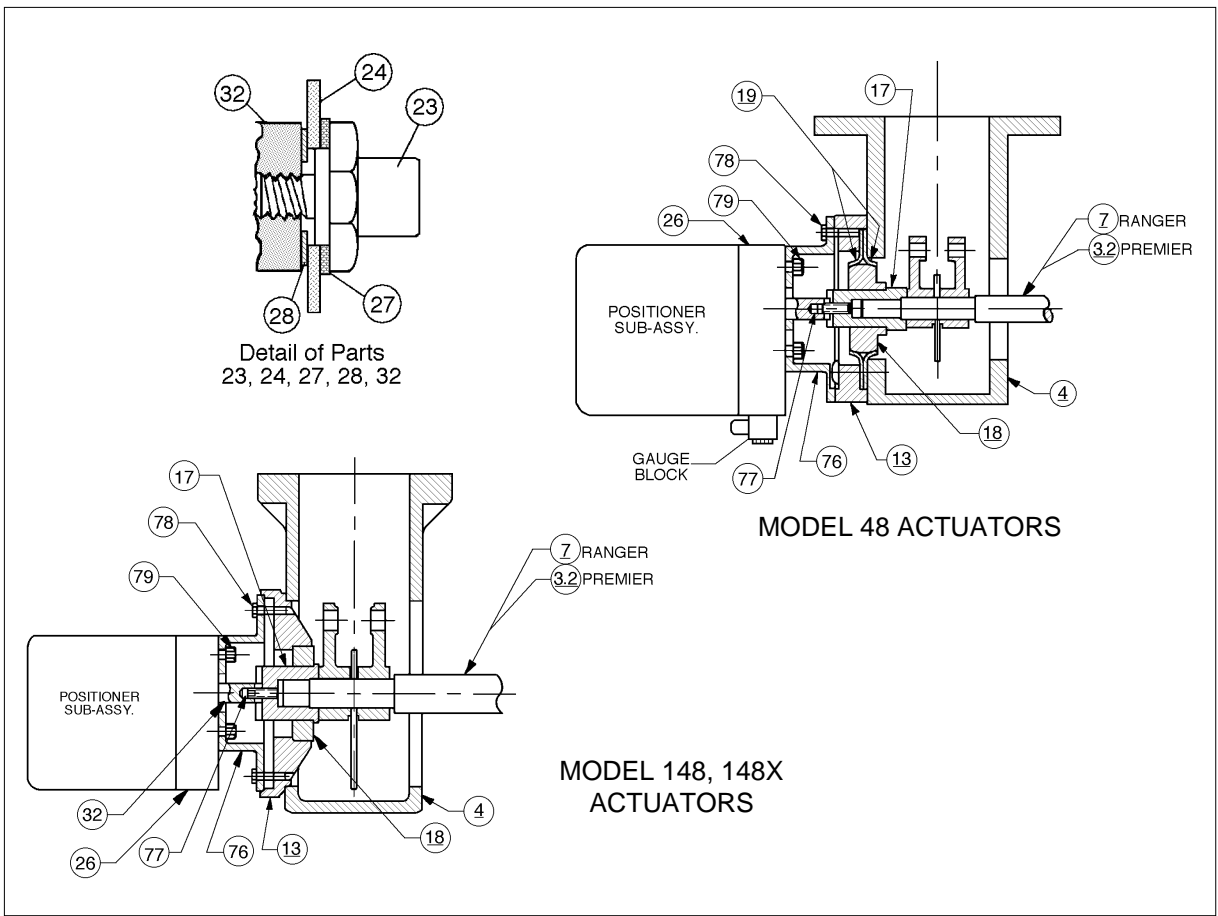

Figure 3
**#48 Actuator:** (See Figure 3)
- 4a. Turn actuator handwheel CW to remove stem windup torque. The linkage from the actuator stem (9) will become slack. May require 1-3 revolutions. This will ease removal of cap screws (31).
- 4b. Remove three cap screws (31), dial lens (14), travel indicator dial (15), cover plate (13), cap screw (32), travel indicator (16), lock washer (55) and pin (51). Remove bearing (18), both bearing flanges (19) and indicator spacer (17).
- 4c. Discard removed dial lens (14), travel indicator dial (15), cap screw (32), travel indicator (16), washer (55), pin (51) and indicator spacer (17). Save only cover plate (13), bearing (18) and both bearing flanges (19) for re-use.
- 4i. Position connected parts (26, 76, 79) of Step 4f., above, with the bracket (76) up and pressing against the cover plate (13), engaging the tongue-and-groove joint between the positioner baseplate rotary shaft (32) and the spacer (17) with its protruding set screw (77). Engage new cap screws (78) to secure the bracket (76) to the cover plate (13).
**#148 or #148X Actuators:** (See Figure 3)
- 4a. Turn actuator handwheel (58) CW to remove stem windup torque. The linkage from the actuator stem (9) will become slack. May require 1-3 revolutions. This will ease removal of cover plate (13).
- 4b. Remove four cap screws (34), two cap screws (31), dial lens (14), travel indicator dial (15), cap screw (32), travel indicator (16), lock washer (55) and pin (51).
- 4c. Remove cover plate (13) carefully, prying out with a screwdriver or similar instrument. Shaft-end bearing (18) may slide out when cover plate (13) is removed; otherwise, remove bearing (18).
- 4d. Remove indicator spacer (17).
- 4e. Discard removed dial lens (14), travel indicator dial (15), coverplate (13), two cap screws (31), travel indicator (16), cap screw (32), indicator spacer (17), pin (51) and washer (55). Save only four cap screws (34) for re-use.